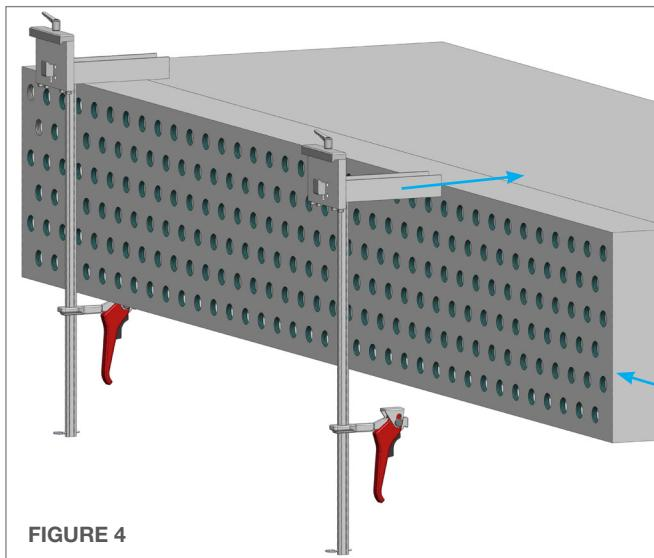

FIGURE 4
4. Mount the **Fin Fan Clamp Assemblies** to the tube bundle as shown. The Clamps should be as square to the bundle as possible. Ratchet the red Handle Assembly until tight. (**Figure 4**)
4. Attach Scaffold Mount to scaffold railing before attaching AUTOBOX®. Ensure the adjustable extension is positioned so that the mount is tight to the rails. Set the AUTOBOX® (ABX-2L) on the Scaffold Mount, so that the Center Hole Mount is over the pivot end of the Scaffold Mount. Pull the Quick Pin on the Retrofit Kit out and release it when it is in position with a desired notch on the Scaffold Mount. (**Figure 4**)